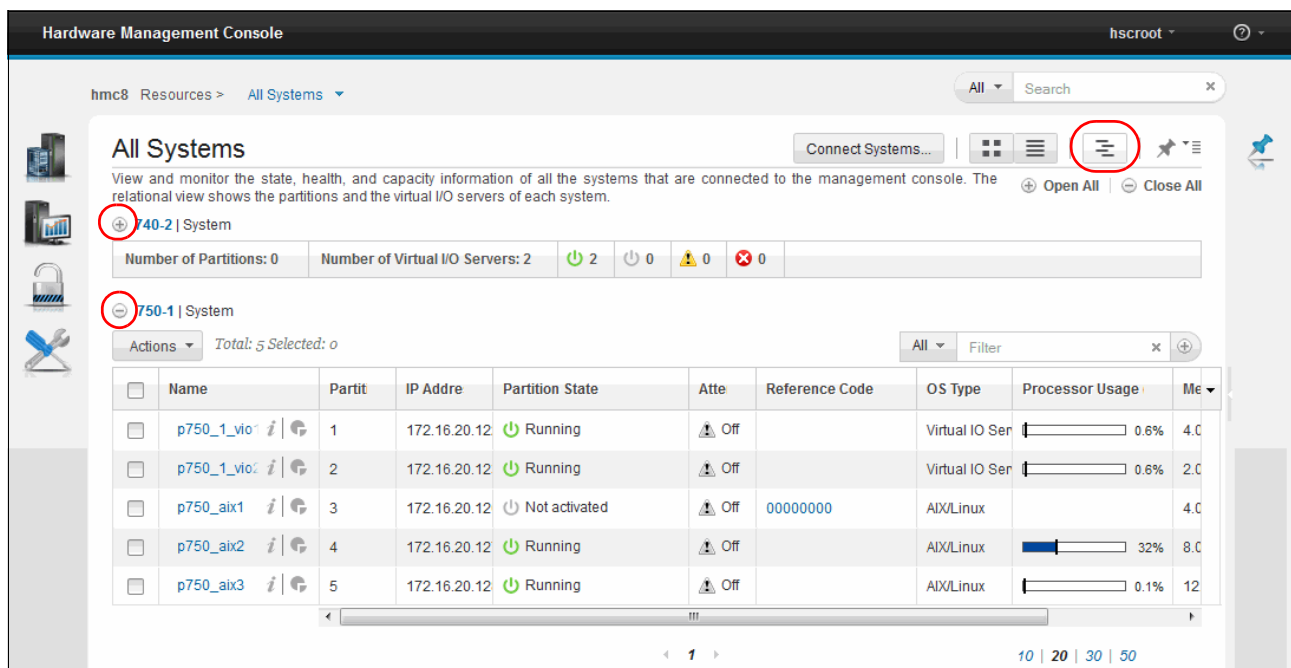

Figure 5-63 Relational View
► The *Relational* view is shown in Figure 5-63.